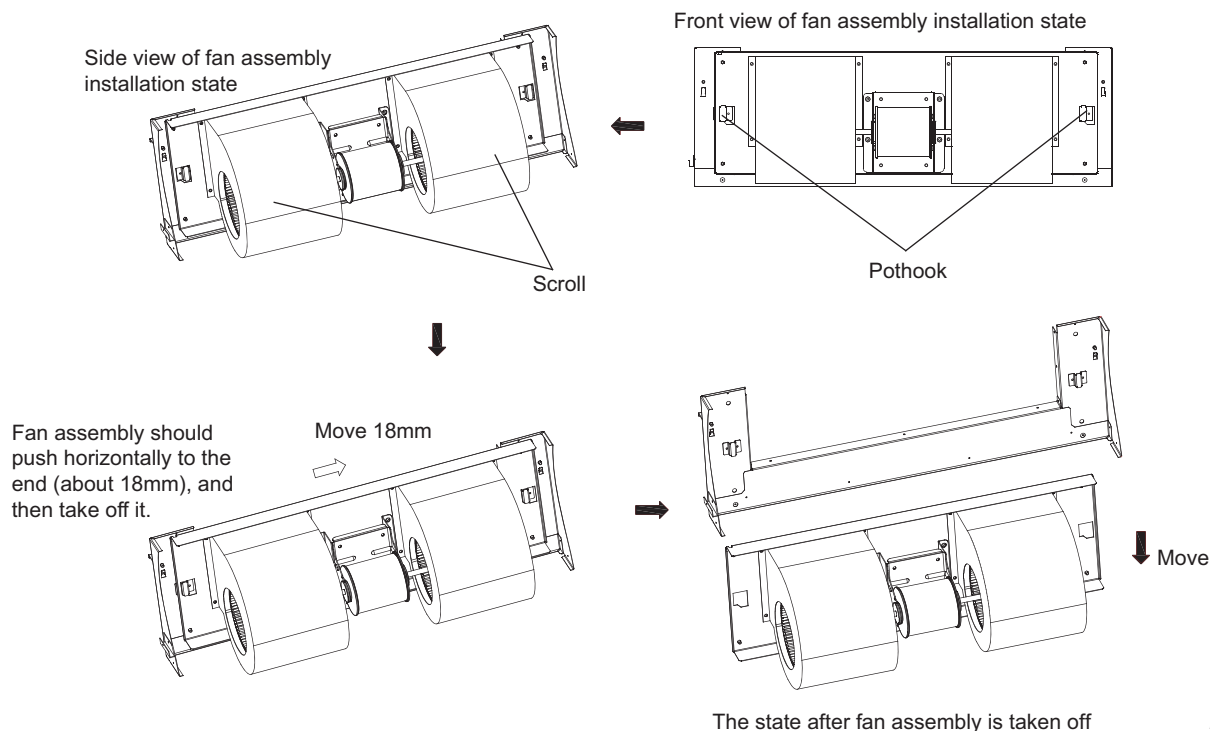

Fig.4-15
2. Refer to Fig.4-15, remove all 4 bolts from fan assembly, see Fig.4-15, according to which orders to take off the fan assembly.
3. Refer to Fig.4-15, horizontal pushing the fan assembly, until it cannot not move any further, and then lift up slightly and take down to remove it.